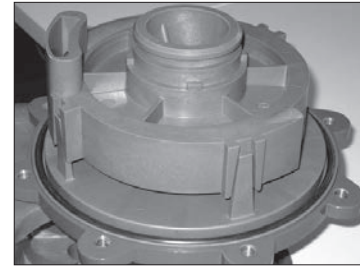

Figure 18
- To remove the inner volute, pull back on the (3) snap fit prongs one at a time so that the hook portion falls into the channel on the inner volute. See figure 18.